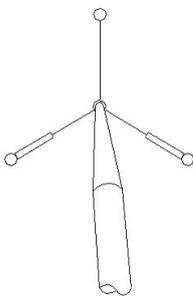

Figure 1
b) Wet the tip with fresh solder then lay the tip on the measuring point with the correct method as the following figure 1. For most tips, the ideal angle is approximately 45 degrees (Figure 2). The temperature will change until the value seems to be stable.